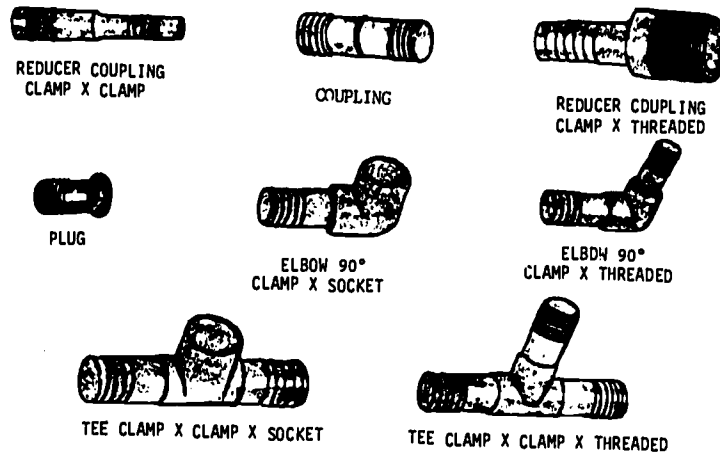

Fig 1-57. Flexible plastic fittings.
Flexible plastic pipe fittings are shaped similarly to other fittings except for the serrations on the coupling end of the fitting. These fittings also come in all shapes and sizes. Figure 1-57 shows some of the flexible plastic (PE) fittings available.